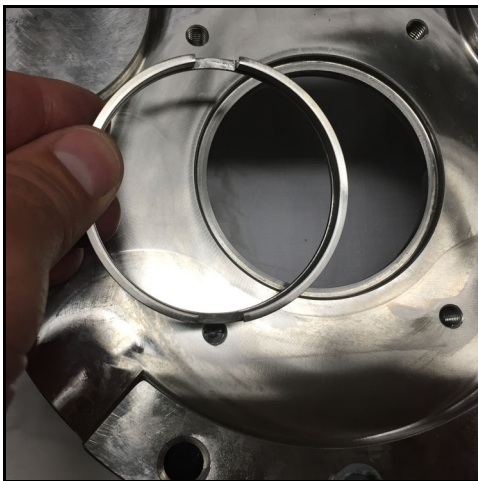

Figure 84 - Install shaft ring
2. Install the shaft ring with the notch openings facing toward you as shown in Figure 84.